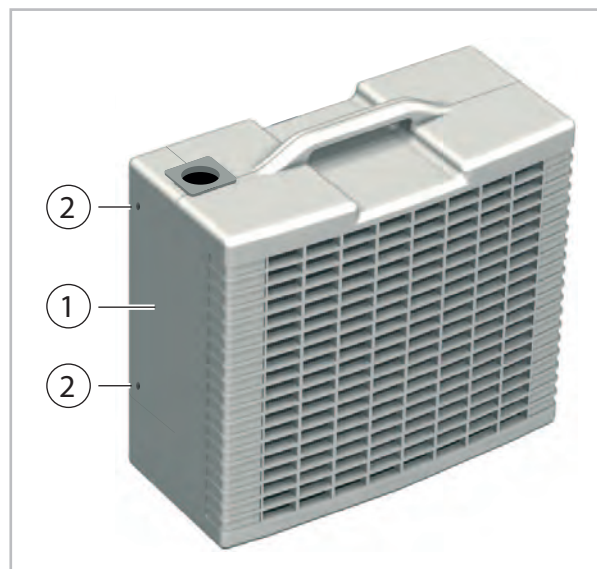

Fig. 12: Remove cover
3. ➤ Remove the 2 screws from the cover on the rear side of the outdoor unit (Fig. 12).